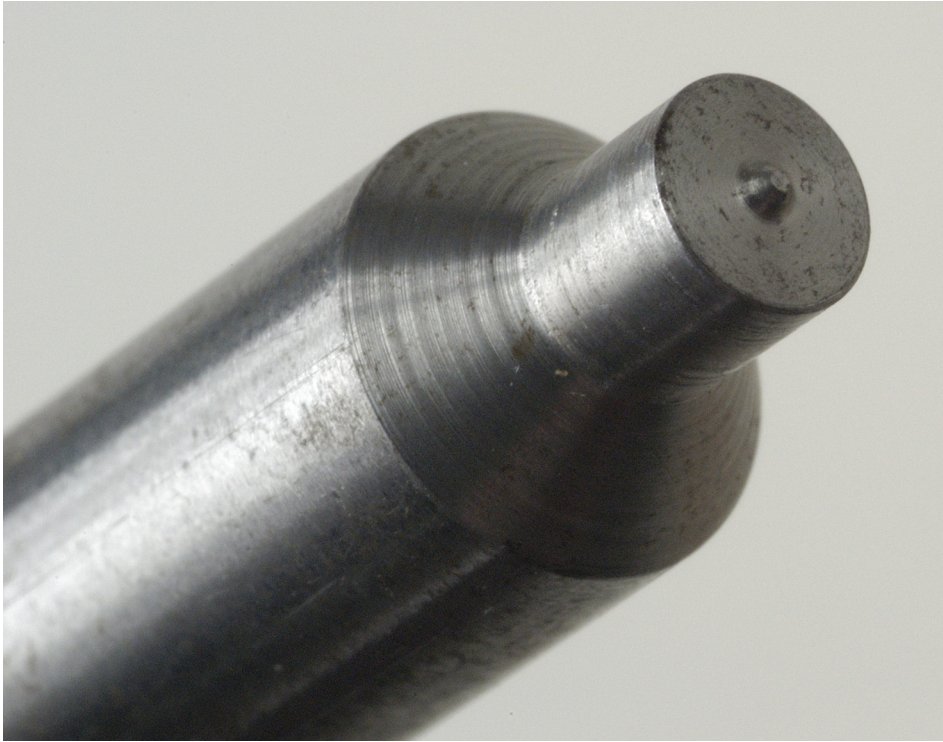

Figure 2.45
- You can now mark through the 5 mm holes to determine where the pillar should be drilled and tapped. The ideal way of marking through is to make a dedicated transfer punch out of a piece of scrap steel having a 5 mm diameter stub faced by a poorly aligned lathe tool so that a slight dimple is left at the centre. The punch can then be dropped through each hole in the channel and tapped lightly with a hammer to leave a precisely positioned dimple ready for drilling. See Figure 2.45.